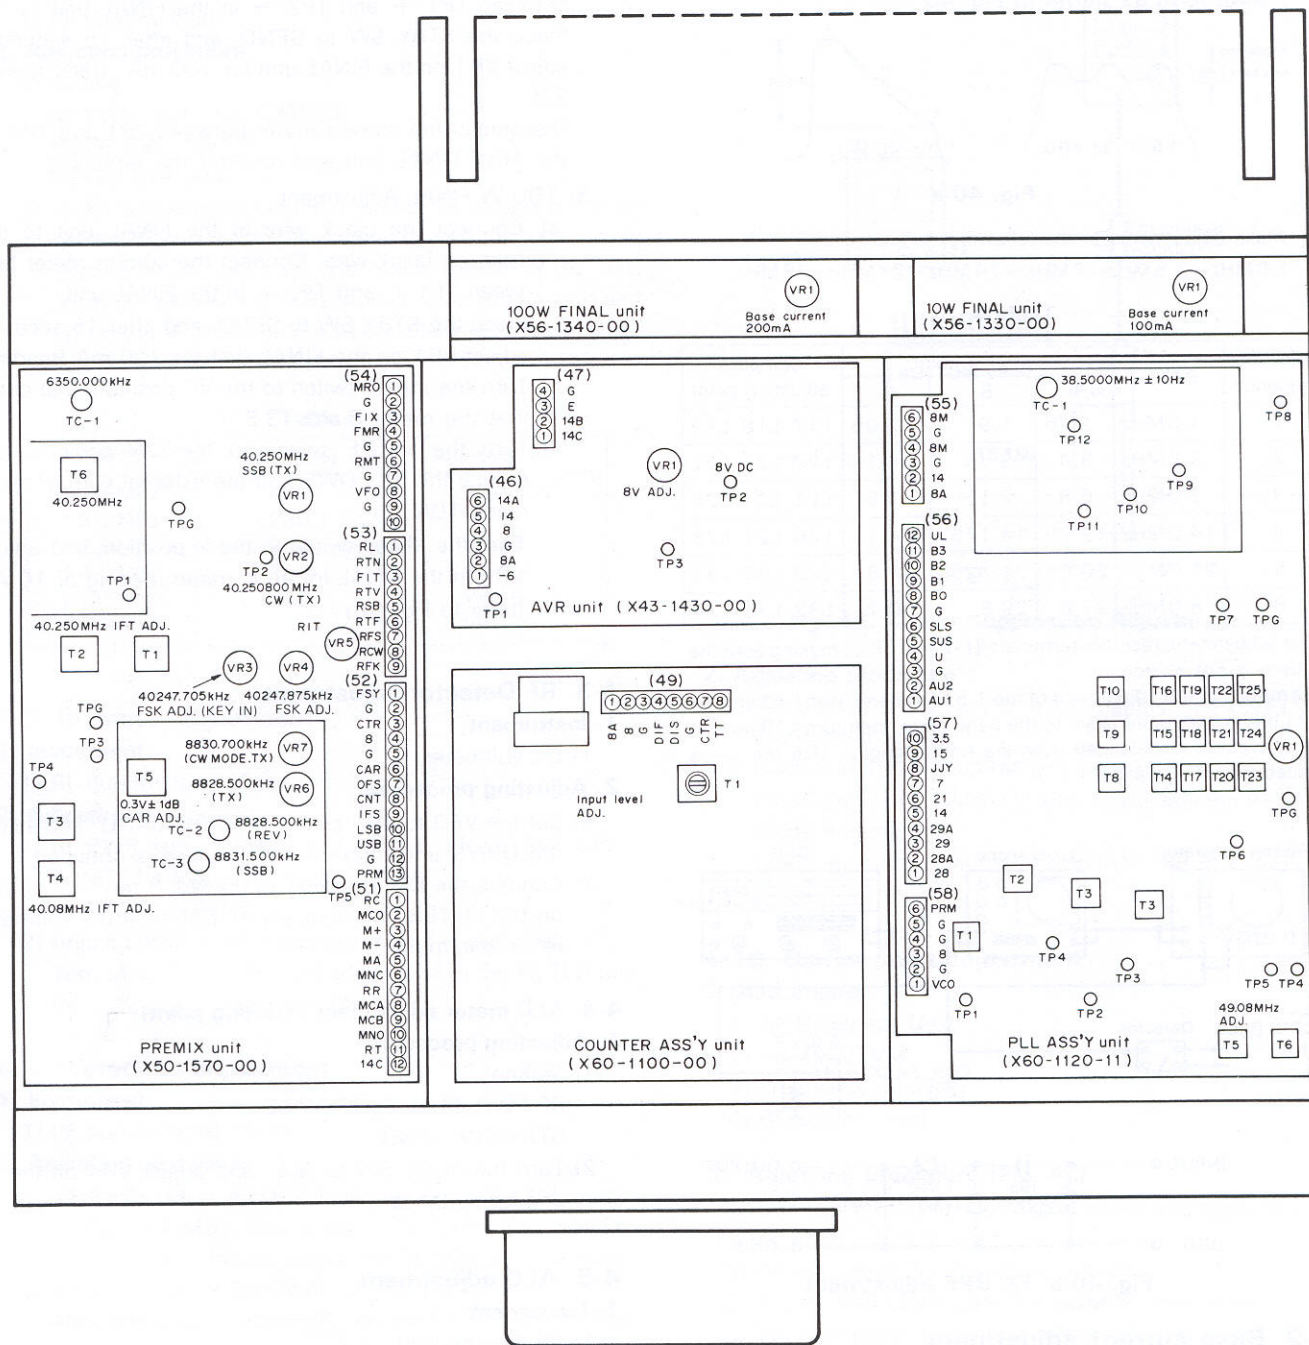

Fig. 37 TS-180 Top view
Connect the frequency counter to the 1P terminal (No. 54) on the PREMIX unit, and adjust frequency to 6350.000 kHz by TC 1. (refer to Fig. 37)
- 1) Connect the frequency counter between terminal TP-1, PLL unit (X60-1120-00/11/61) and the GND terminal. Connect the voltmeter between terminal TP-3 and the GND terminal. (refer to Fig. 37)
- 1) Connect the frequency counter to TP-8 on the PLL ASS'Y unit, on the 1.5 MHz BAND, adjust frequency to 38.500000 MHz ± 10 Hz by TC-1. (refer to Fig. 37)
Place the STBY SW to SEND, and after 15 seconds, adjust VR1 on the FINAL unit for 100 mA. (refer to Fig. 37).